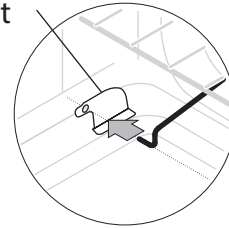
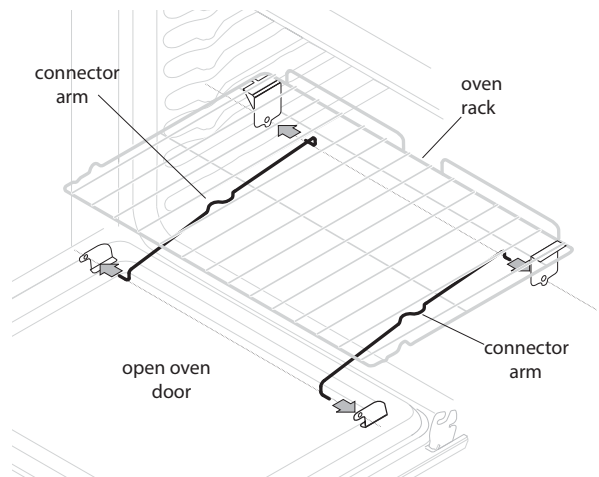

Figure 17: Connector arm/door connection
Figure 18: Assembly of the Effortless™ oven rack
4. Assemble one connector arm at a time. With the oven door open and the oven rack in place, install one end of the connector arm to the hole in the door connector bracket (Figure 17) and the other end in the hole in the rack connector bracket (Figure 18). The oven rack may need to be adjusted in or out in the rack position to match the length of the connector arm.